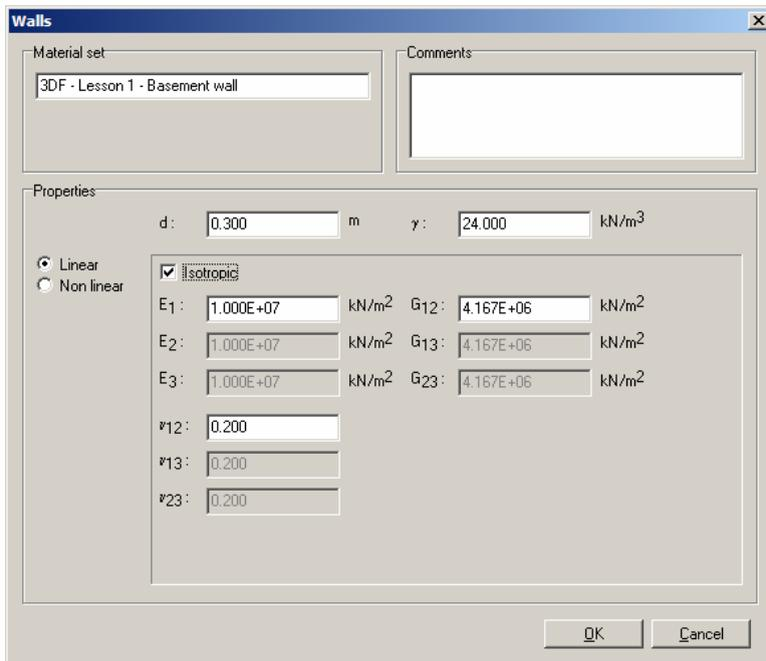

Figure 3.12 Input for the Walls material data set
-  Open the *Material sets* window by clicking on the corresponding button on the toolbar. In the material data set window, set the *Set type* to *Walls* (see Figure 3.12). Click the <New> button. Enter ‘Basement Wall’ as the *Material set* identification.